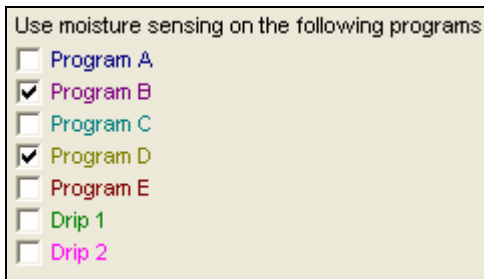

Figure 16.4.38C
- Place a check in each program box that you want to use moisture sensors on (Figure 16.4.38C).